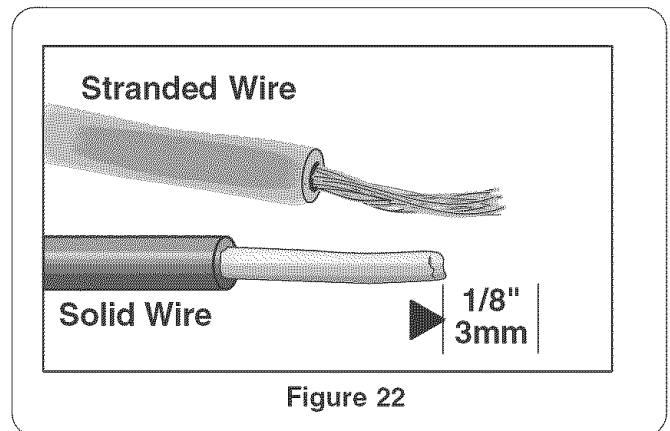

Figure 22
- Extend the dishwasher's stranded wires 1/8" (3mm) beyond the power supply cable's solid wires, as shown in Figure 22.